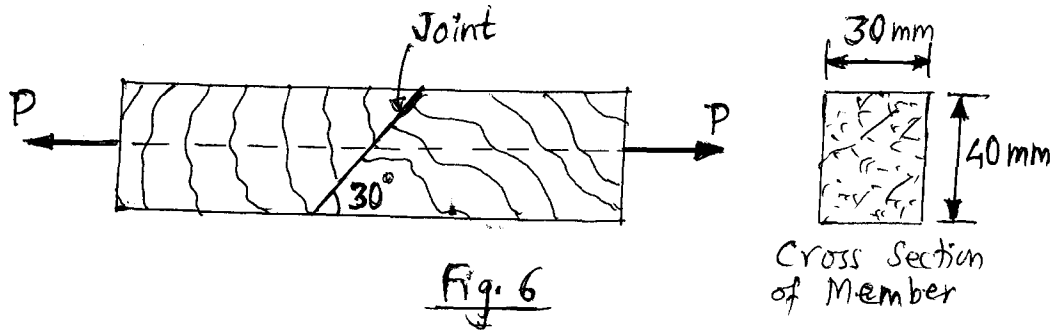

Fig. 6
Q.5 A hollow circular column ($E=200\text{GPa}$) of actual length 2.4m has one end fixed (10) and other end free. Using following data, find ratio of crippling loads by Euler and Rankine's formulas:
Q.6 a) Two timber pieces are glued together with an inclined joint as shown in fig. 6. (06) Find maximum axial force 'P' the member can carry knowing that maximum allowable stresses for the joint are 8MPa in tension and 5MPa in shear.